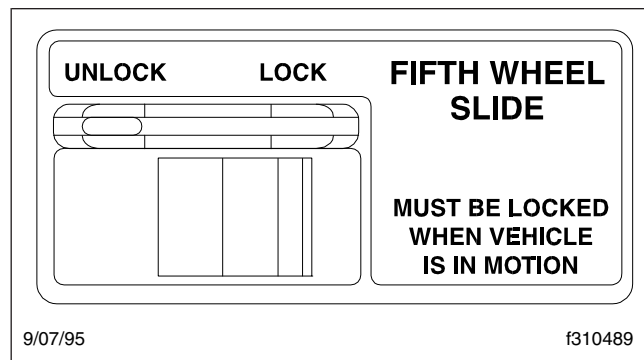

Fig. 10.13, Cab Control, Fifth Wheel Slide
- 3.1 For air-operated models, set the cab-operated control switch (Fig. 10.13) to UNLOCK.